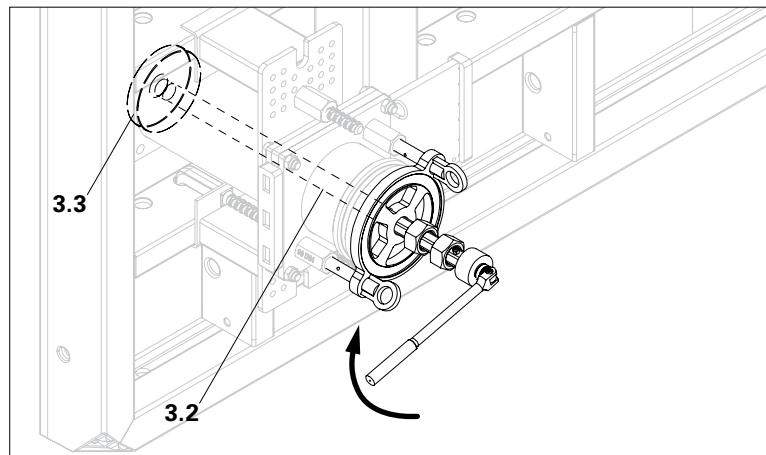

Fig. A.08
3. Turn the reamer spindle (3.2) with the SW 24 wrench and thereby adjust the reamer plate (3.3) so it is flush with the formlining. (Fig. A.08)